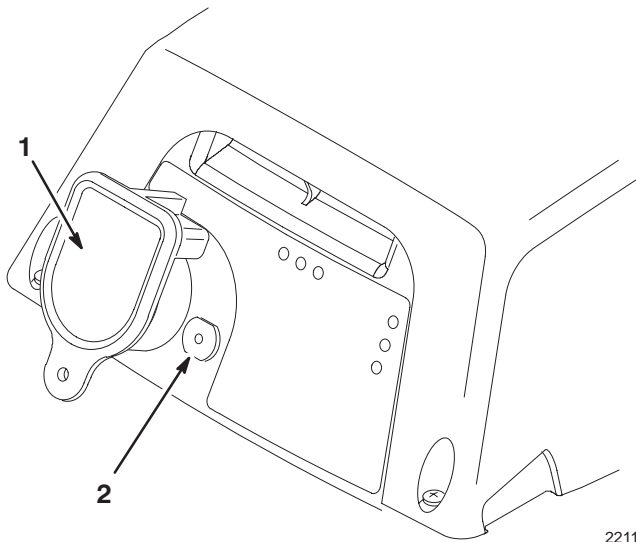

Figure 12
The mower will only operate when key is fully seated in plug receptacle (Fig. 12). To prevent accidental starting or unauthorized use of mower, always remove key from plug receptacle when leaving mower unattended. The key has a tab with a hole in it to allow key to be hung from a nail, out of the reach of children. Read warning label on key.
2. Insert key fully into plug receptacle (Fig. 12).